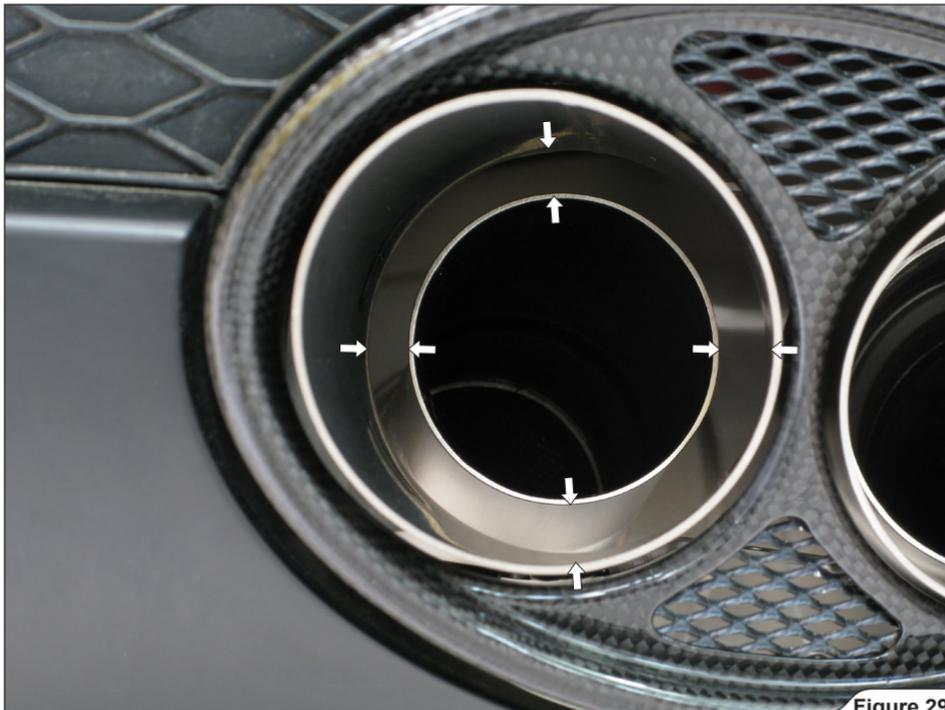

Figure 29
- Center both mufflers exactly to the tail pipes' outlets and tighten the mufflers' connection bolt and mufflers' - link pipes clamps to the specified torques (**Figure 29, 30, 31, 32**).